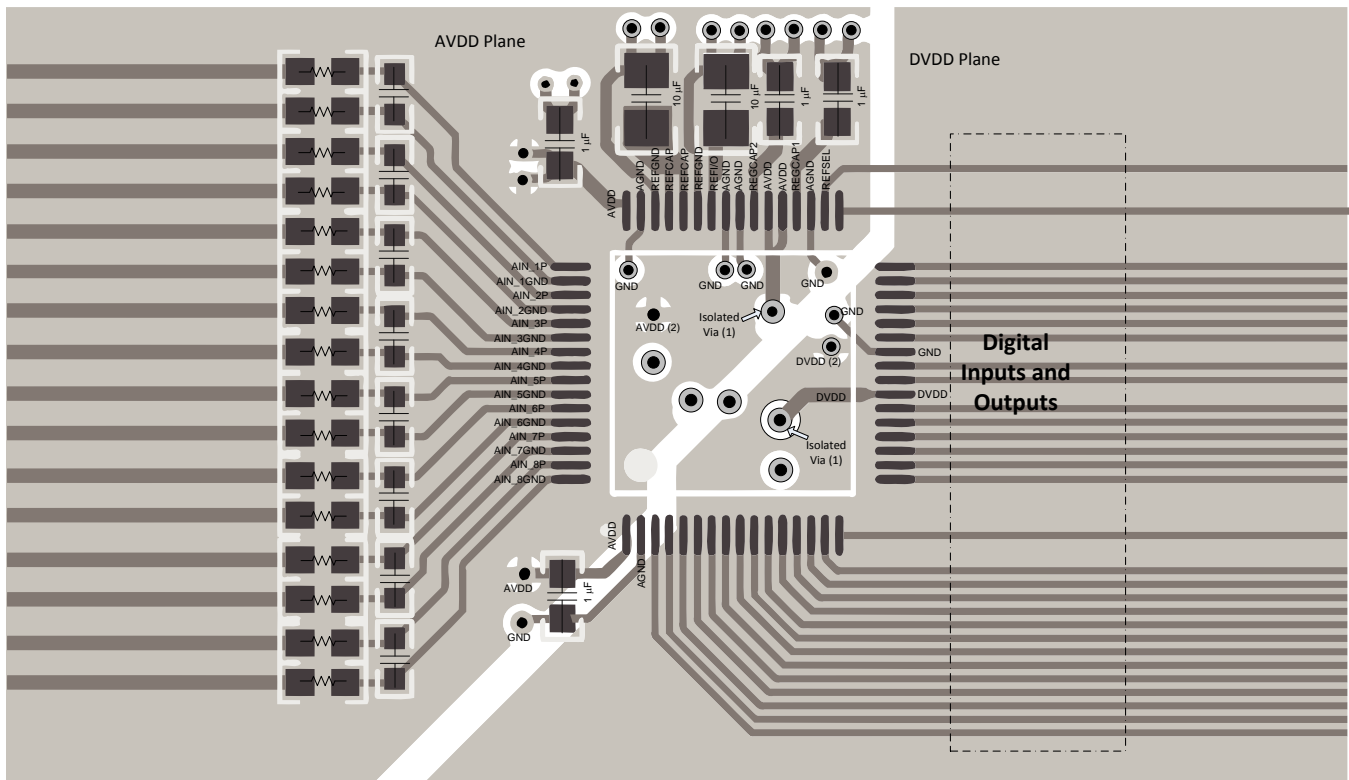
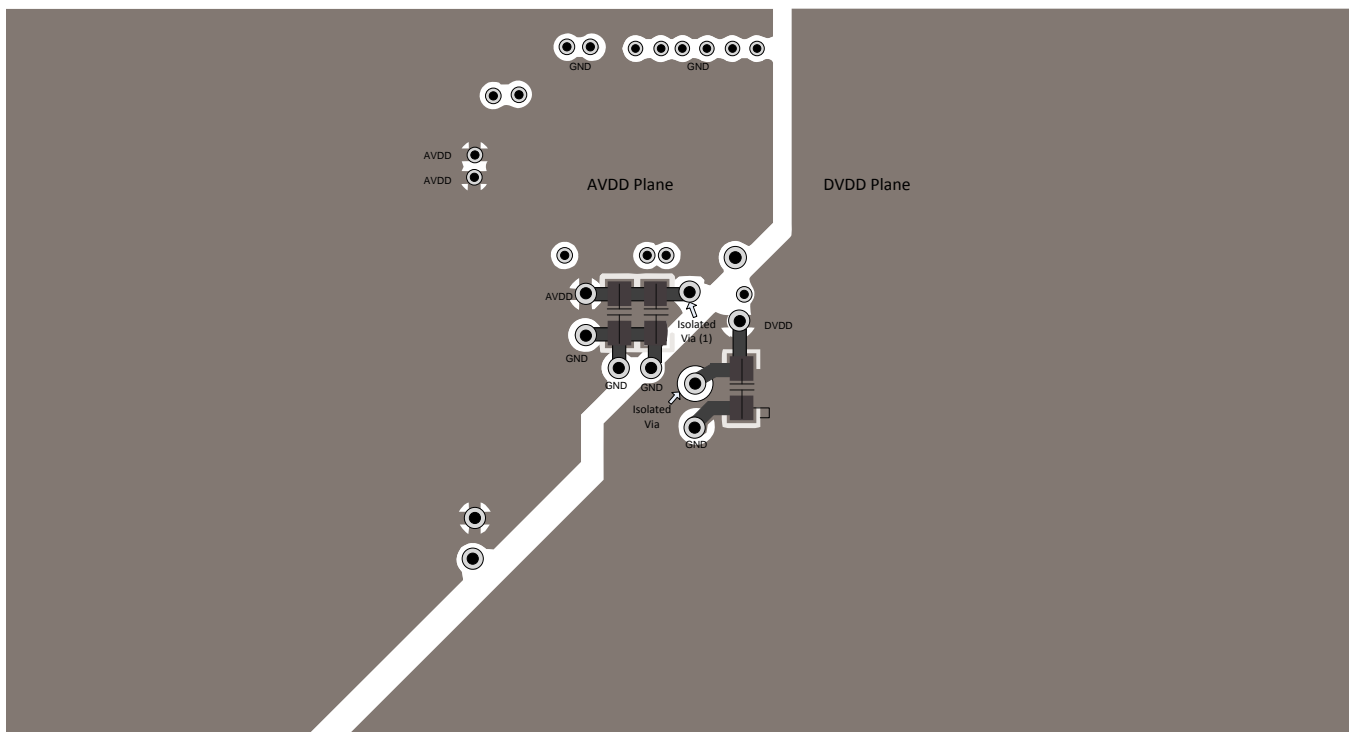

Figure 90. Top Layer Layout
Figure 91. Bottom Layer Layout
Figure 90 and Figure 91 illustrate a PCB layout example for the ADS8598S.
- Power sources to the ADS8598S must be clean and well-bypassed. As a result of dynamic currents during conversion, each AVDD must have a decoupling capacitor to keep the supply voltage stable. Use wide traces or a dedicated analog supply plane to minimize trace inductance and reduce glitches. Using a 1- μ F, X7R-grade, 0603-size ceramic capacitor is recommended in close proximity to each analog (AVDD) supply pin. Bypass capacitors for AVDD pins 1 and 48 are located on the top layer; see Figure 90. AVDD supply pins 37 and 38 are connected to bypass capacitors in the bottom layer using an isolated via (1); see Figure 91. A separate via (2) is used to connect the bypass capacitor to the AVDD plane.
- For decoupling the digital (DVDD) supply pin, a 1- μ F, X7R-grade, 0603-size ceramic capacitor is recommended. The DVDD bypass capacitor is located in the bottom layer; see Figure 91.
Figure 90 and Figure 91 illustrate a recommended layout for the ADS8598S along with proper decoupling and reference capacitor placement and connections.